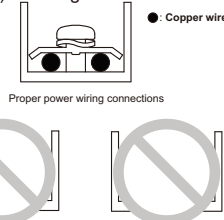

Figure 7.4
- Do not connect two power cords with different diameters to the same power supply terminal (may cause overheating of wires). See Figure 7.4.